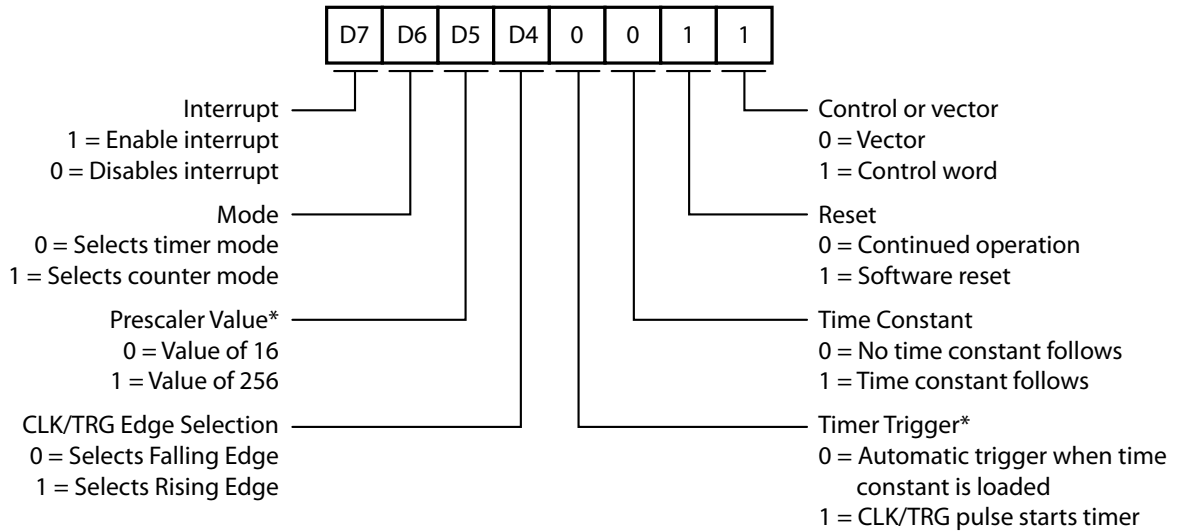

**Figure 15. PIO Interrupt Disable Word**
**Interrupt Disable Word.** When bits B3 to B0 are loaded with 0011, the command register functions as the Interrupt Disable Word Register. This word can be used to enable or disable a port's interrupts without change the remainder of the port's interrupt conditions. See Figure 15.